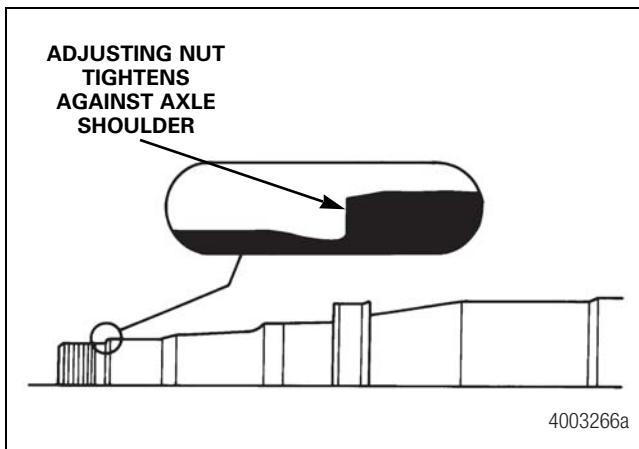

Figure 9.3
- On positive adjust axles, a shoulder is machined into the spindle. Figure 9.3.